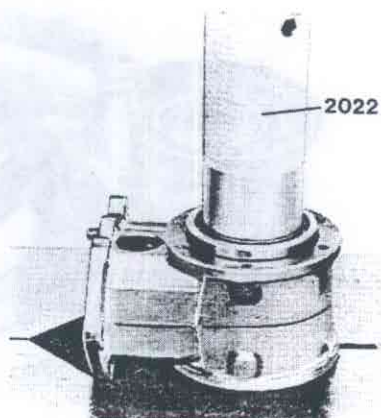

Fig 46-145 Pressing in the bearing
2. Press the gear into the housing with 2022, Fig. 46-145: